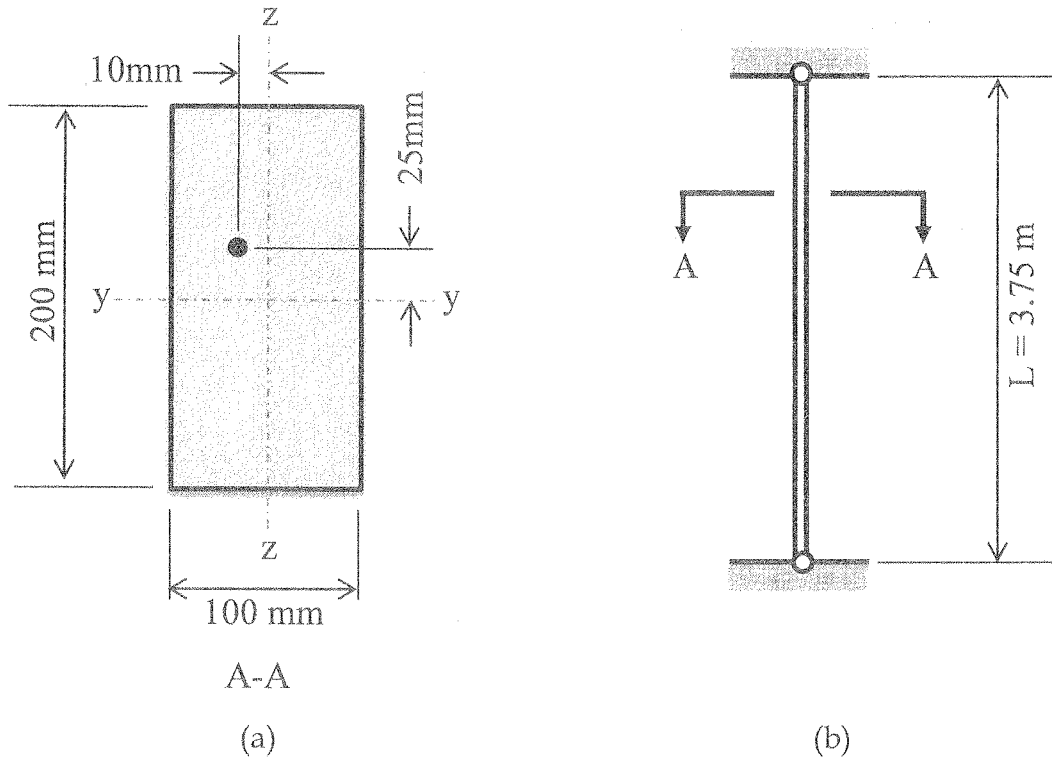

Figure Q1
- c) The column shown in Figure Q1 has a cross-section  $100 \text{ mm} \times 200 \text{ mm}$ , is of strength class C24 to BS 5268-2, and functions under wet exposure condition. It supports a characteristic permanent axial load of 10 kN and a characteristic variable medium-term axial load of 17.5 kN. The loading is applied 25 mm eccentric from the  $y$ - $y$  axis and 10 mm from the  $z$ - $z$  axis as shown in the Figure Q1(a) and the permanent action includes an allowance to cover for the effect of the self-weight of the column. The column is 3.75 m high and at each end is effectively held in position but not in direction about the  $z$ - $z$  and about the  $y$ - $y$  axes.